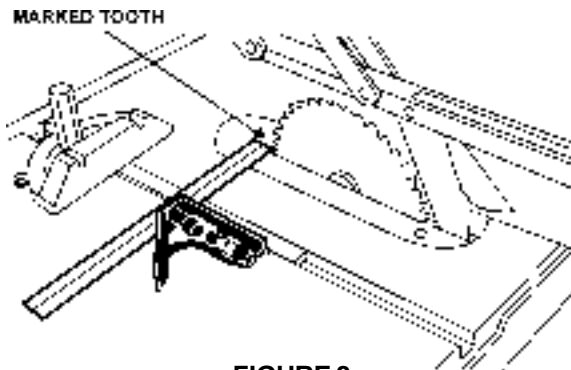

FIGURE 8
To check the alignment of the mitre slot to the blade, raise the blade to its 0 deg. (vertical) position to its maximum height. Mark one tooth with a grease pencil and position the tooth slightly above the top edge of the table at the front. Raise the mitre gauge slightly out of its slot to serve as a shoulder. Using a combination square against the side of the bar, slide the scale over until it touches the tip of the blade and lock in position, Figure 8. Rotate the marked tooth so that it is slightly above the table top at the rear and using the square as in front, check whether the distance to the blade is the same. If it is not, loosen the three (3) mounting screws that lock the table to the cabinet and move the table to bring the mitre slot in line with the blade. The blade should be kept centered with the slot in the table insert to ensure clearance at both the 90 deg. and 45 deg. positions. After aligning, lock the table to the cabinet by retightening the three mounting screws.